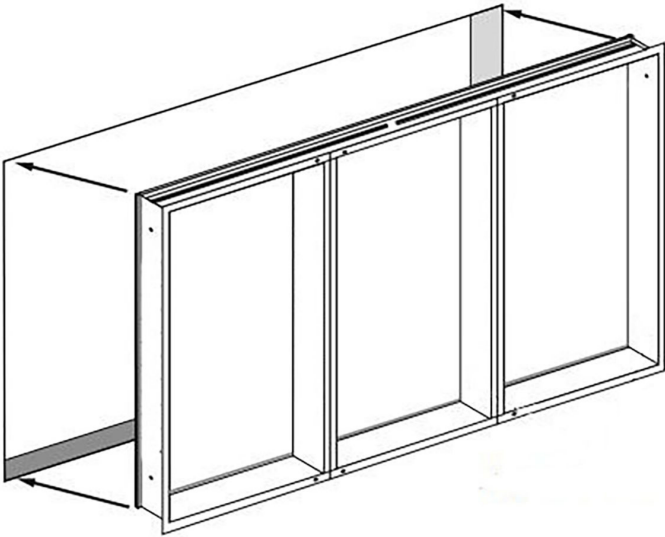

Fig. 3
3. Insert cabinet into wall opening making sure the flange covers the rough wall opening evenly. You may need to insert shims as needed (not included). (Figure 3)